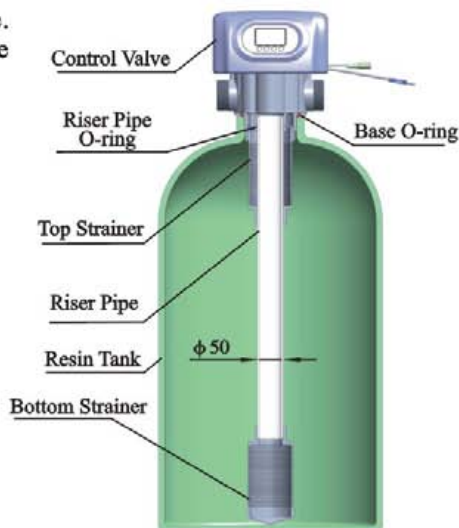

Figure 1-1
- ①The softener should be located close to drain.
- ②Ensure the unit is installed in enough space for operating and maintenance.
- ③Brine tank need to be close to softener.
- ④The unit should be kept away the heater, and not be exposed outdoor. Sunshine or rain will cause the system damage.
- ⑤Please avoid to install the system in one Acid/Alkaline, Magnetic or strong vibration circumstance, because above factors will cause the system disorder.
- ⑥Do not install the filter or softener, drain pipeline in circumstance which temperature may drop below 5°C, or above 50°C.
- ⑦One place is recommended to install the system which cause the minimum loss in case of water leaking.
C. Pipeline installation (Take N74A3 as an example)**①Install control valve**
- a. As the Figure 1-1 shows, select the riser pipe with 50 mm OD, glue the riser pipe to the bottom strainer and put it into the mineral tank, cut off the exceeding tube out of tank top opening. Plug the riser tube in case of mineral entering.